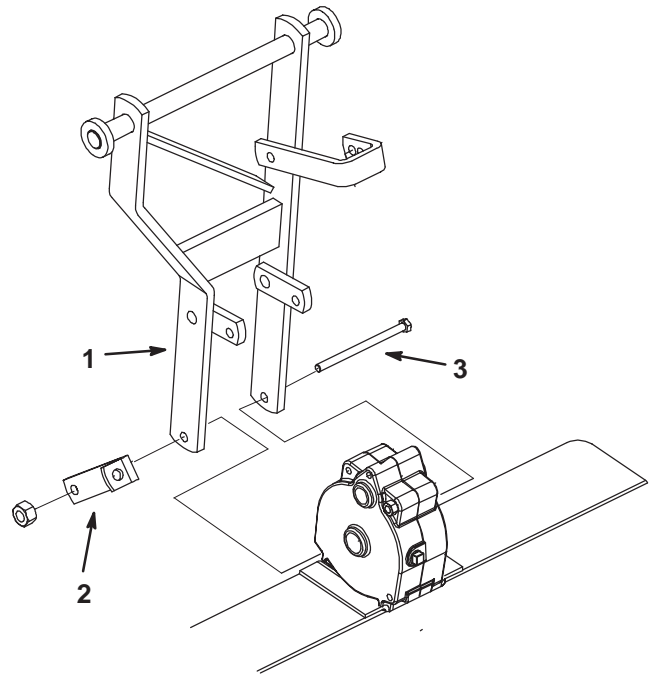

Figure 3
2. Loosely mount the rear of the hitch and the spring bracket to the rear of the gear case with the previously removed 3/8 x 5-1/2 inch bolt and nut. Position components as shown in figure 3. Tighten the bolts securely.
Note: Make sure the bolt is positioned as shown in figure 3.